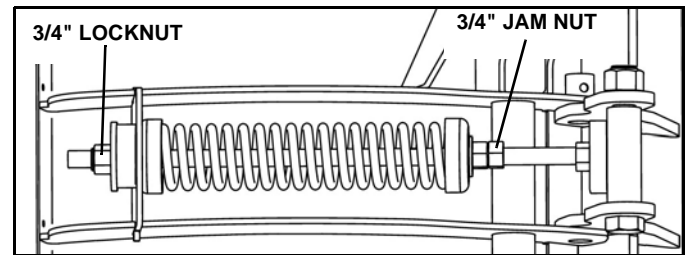

Figure 2-7
3. Tighten the 3/4" jam nut against the adjustment nut to secure the 14" spring cup spacing. (See Figure 2-7)